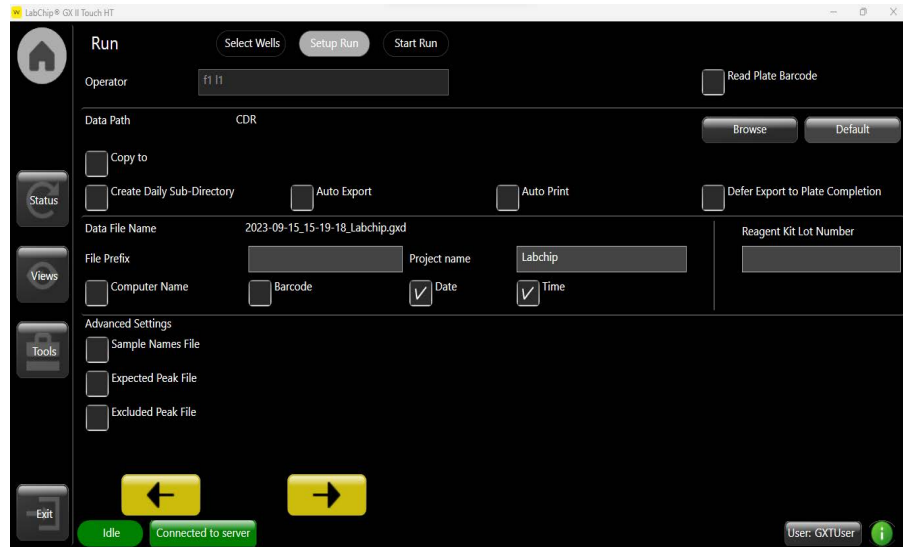

Figure 10. Run setup screen.
- 5 In the *Setup Run* tab, select the operator name, the option to read barcode, the destination of the file, the inclusion of sample names, expected peaks, and excluded peaks and the filename convention. Select *Auto Export* to export results tables automatically, *Auto Print* to print results table into a PDF, and *Defer Export to Plate Completion* to export results at the end of the run instead of as each well is completed (Figure 10). Touch the green arrow.